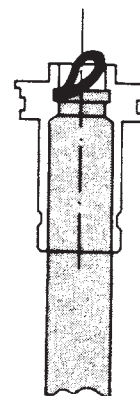

FIGURE 4
1. Mount the O-ring (5) on the valve housing (4). Mount the O-ring (3) inside the valve housing (4) (see diagram Fig. 4).